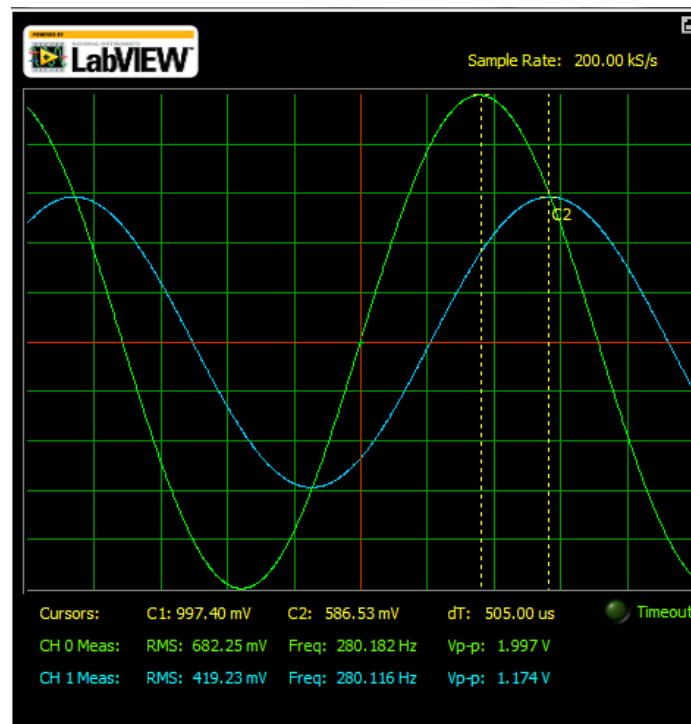

Figure 3: Sinusoidal Steady State Response of the first order system
12. For the initial Bode plot, collect and record the appropriate data in Excel for the input frequencies: 20, 60, 100, 140, 180, 220, 280, 320, 520, 720, 920, 1120 Hz. Figure 3 provides an example of the system input and output with cursor measurements.